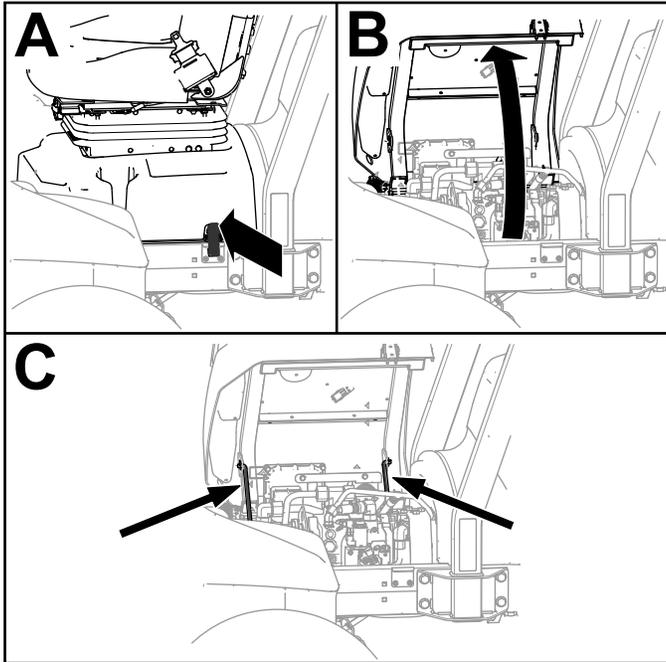

Figure 134
2. Unlatch the seat base, tilt the seat base open, and support it with the prop rods (Figure 134).